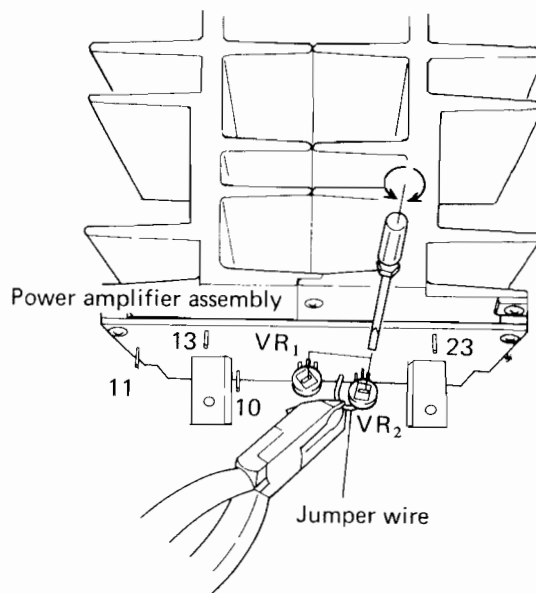

Fig. 14 Power amplifier adjustment
1. Connect a DC voltmeter between power amplifier assembly (AWH-073) L ch terminal 10 and ground as shown in Fig. 14.
3. When 0V cannot be obtained by performing the adjustment of item 2 above, cut the jumper wire shown in Fig. 14 and adjust to  $0V \pm 30mV$  with  $VR_2$ .
4. The R ch also uses the power amplifier assembly (AWH-073). Check and adjust this channel in accordance with items 1 - 3 above.
2. Set the power switch to "ON", wait 10 minutes, and then check if the DC voltmeter reads 30mV. If it doesn't read 30mA, adjust to 30mV by turning  $VR_1$  (Fig. 14).
3. The R ch also uses the power amplifier assembly (AWH-073). Check and adjust this channel in accordance with items 1 - 2 above.